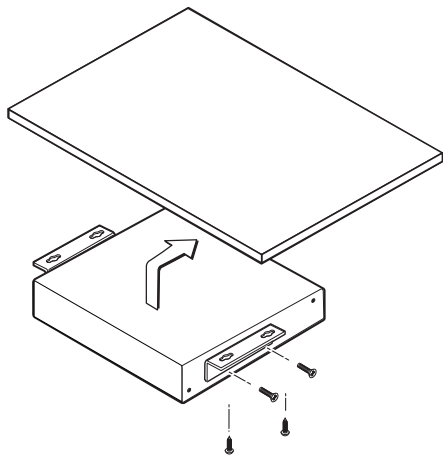

Figure 2-7 — Securing the interface to the surface
4. Using the four wood screws provided, attach the brackets under the mounting surface (figure 2-7).